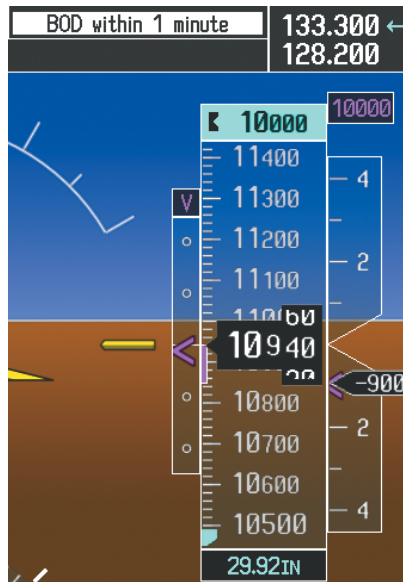

Figure 5-143 Approaching Bottom of Descent (BOD) at OPSHN Offset Waypoint
- 17) When the aircraft is one minute from the bottom of descent (BOD) it is annunciated as shown in Figure 5-143. Upon reaching the offset waypoint for OPSHN, the aircraft is at 10,000 feet.